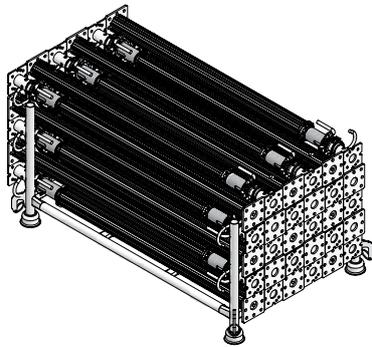

Fig. 36.1 MEP props 300 in piling rack
■ 30 MEP props 300: 760 kg (Fig. 36.1),